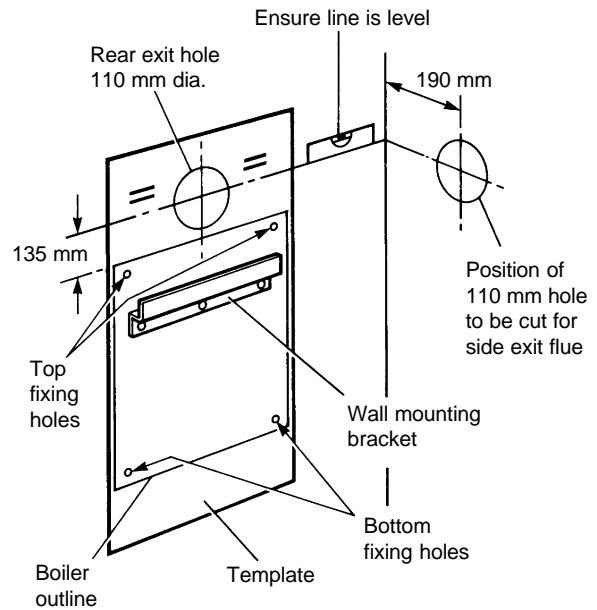

Fig. 10
4.3 PREPARE THE WALL - Figs. 10, 10A
4.4 FIT THE BOILER - Refer to Fig. 10